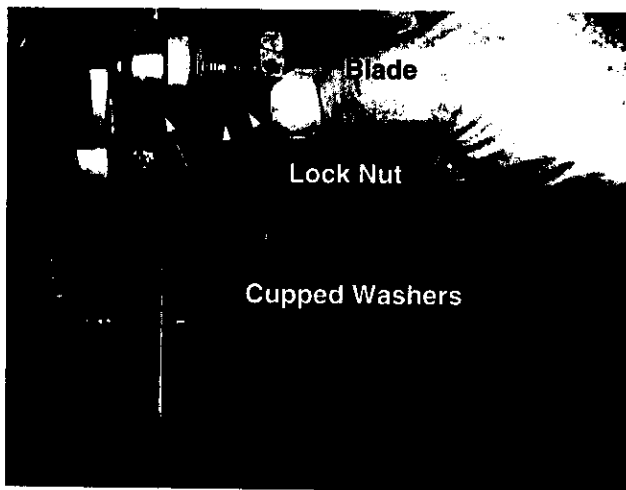

Figure 21
2. Remove the blade and two bell washers. See Figure 21.